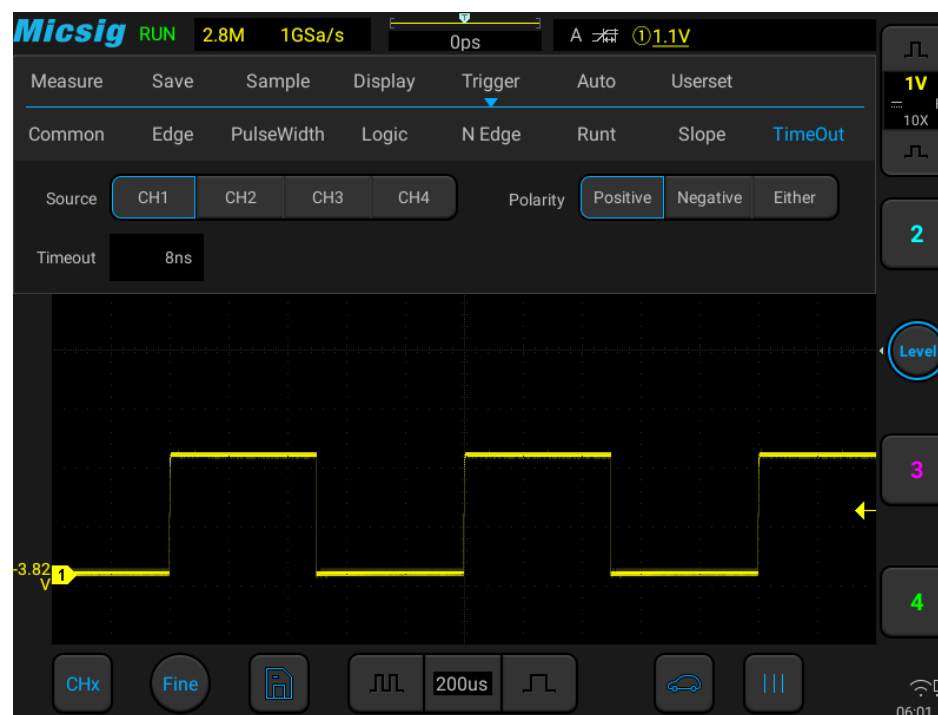

Figure 7-29 Time-out Trigger
- 1) Tap “Trigger” on the main menu to open the trigger menu, select timeout trigger in the trigger type, and set the timeout trigger as follows, as shown in Figure 7-29: